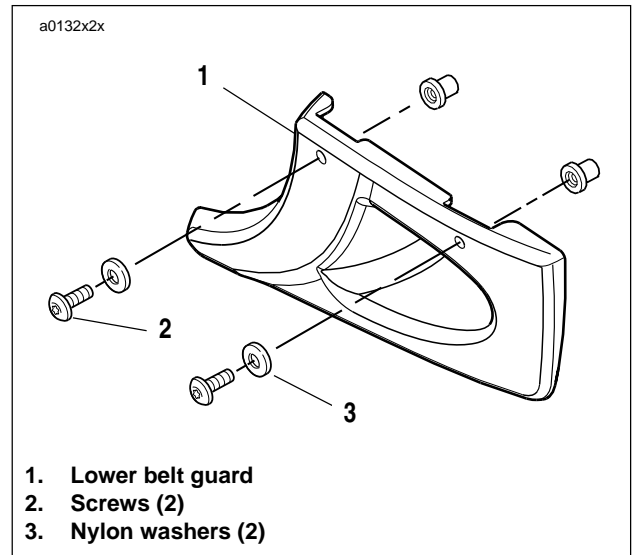

Figure 2-109. Lower Belt Guard
1. See Figure 2-109. Remove two screws and nylon washers securing lower belt guard to swingarm.